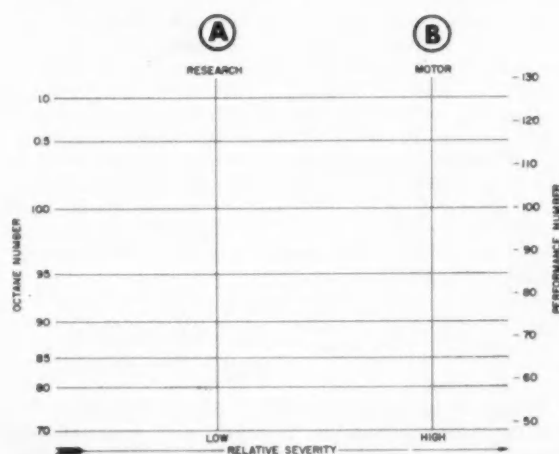

Fig. 1—Nomograph showing octane numbers plotted to AN performance-number scale.
The vertical line (A) shown in Fig. 1 will be used to represent any fuel rating obtained by the Research Method from 70 octane number at the low end to octane +1.0 ml tel per gal at the high end. This line can, of course, be extended to include higher or lower values but the portion shown covers
The second laboratory quality control method often used by refineries is the Motor Method. This method is shown in Fig. 1 as a vertical line (B). The distance separating the Research Method line from the Motor Method line is unimportant. The octane-number lines are extended as horizontal lines across the sheet to include ratings obtained by the Motor